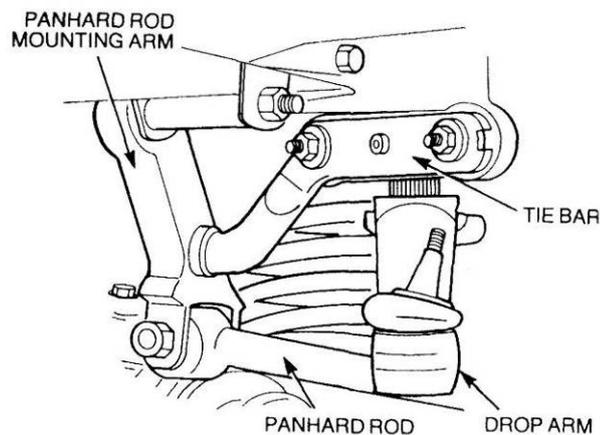

Figure 132 Removal of the Tie Bar
- j. Slacken the locknut securing the tiebar to the Panhard rod mounting-arm. Remove the two locknuts, washers and bolts securing the tie bar to the steering box (Figure 132) and swing the tiebar clear of the steering box. Discard the locknuts.